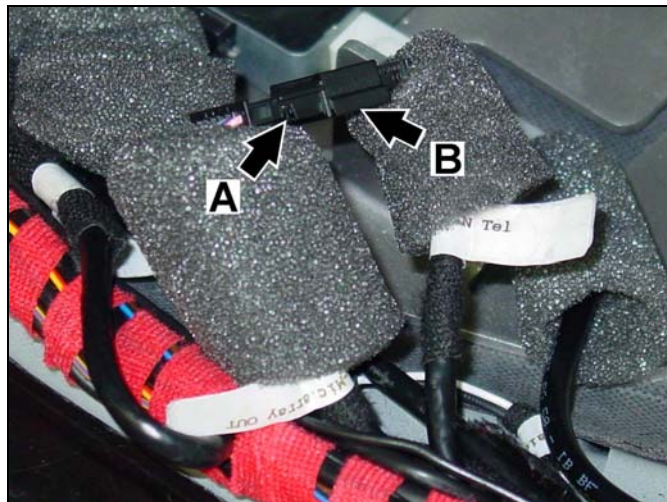

Figure 32
- 6-pin female connector labeled “1 - MIC.ARRAY OUT” (A, Figure 32)
- 6-pin male connector labeled “3 - MIC IN TEL” (B, Figure 32)
3. Connect the 6-pin female connector labeled “1 - MIC.ARRAY OUT” (A, Figure 32) to the 6-pin male connector labeled “3 - MIC IN TEL” (B, Figure 32).